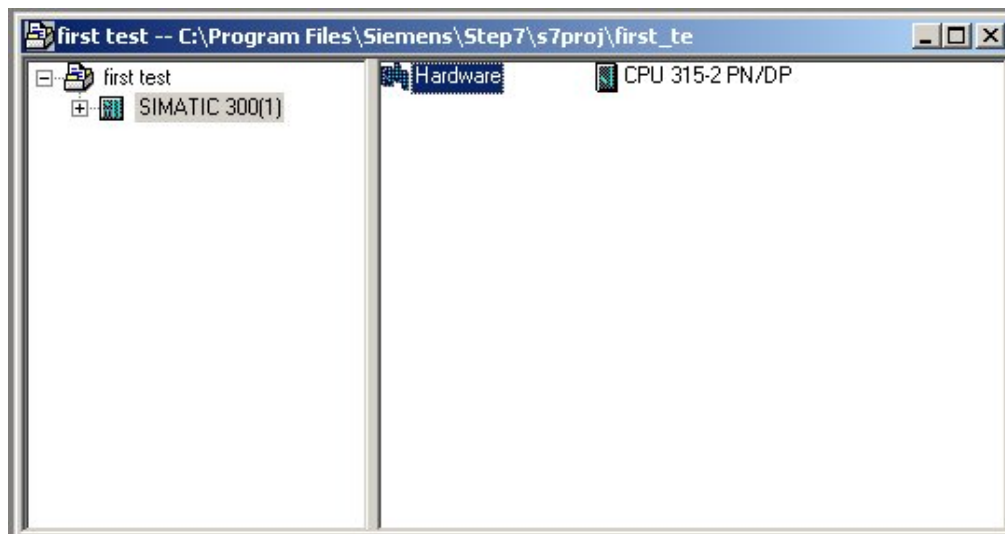

Figure 7
4. Select station and click on Hardware, as shown in figure 7.